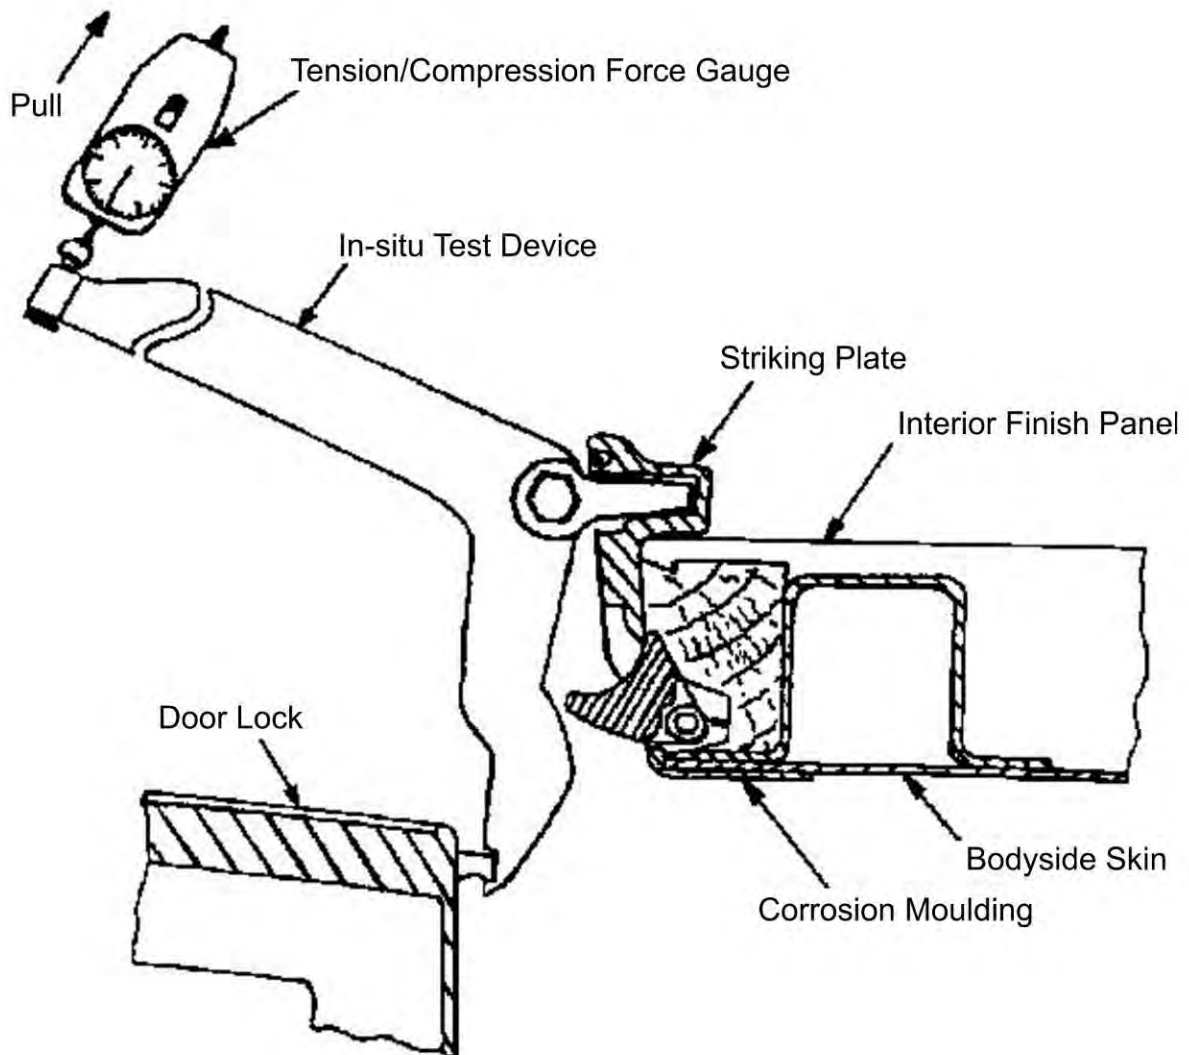

Figure 3: Measuring Lock Bolt Spring Force
- 29.2 Insert the fulcrum of the testing device into the striking plate well and close the door to a position where the notch in the testing device engages with the end of the lock bolt. See Figure 3.